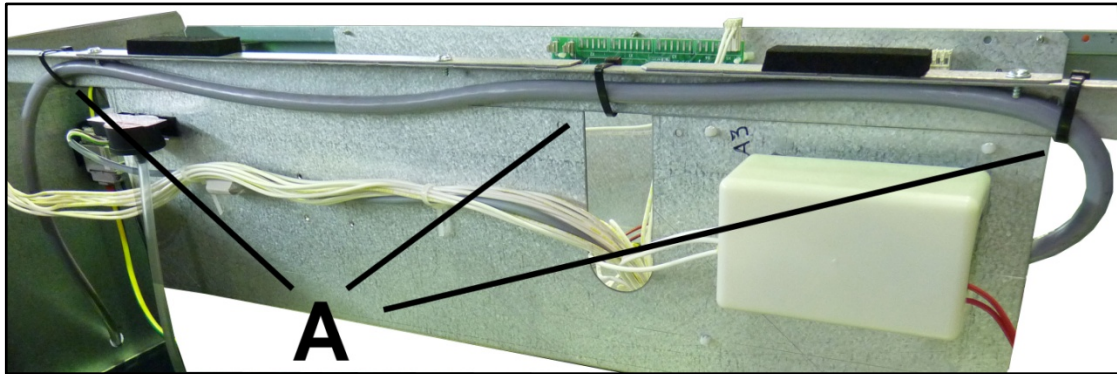

Fig. 3.12
- In models **HS-6024/HS-6028/HS-6032** and **EH060/EH070/EH080**, secure the conductor using the cable ties on the outside of the electrical cabinet, as shown in Fig. 3.12/A.